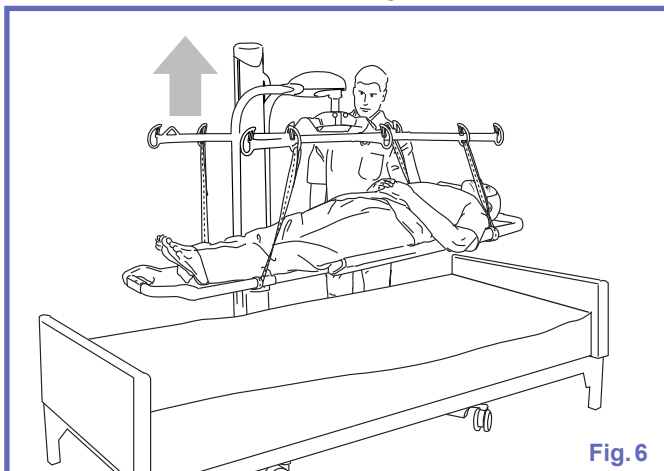

Fig. 6
- 6) Raise the patient sufficiently to clear the bed/ hospital stretcher (See Fig. 6).